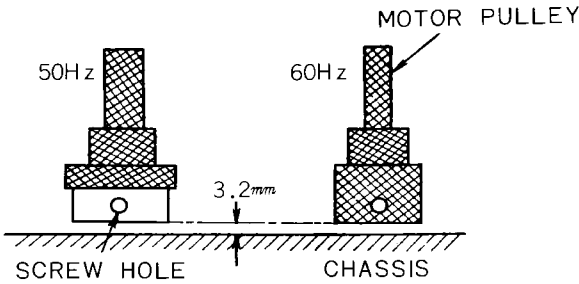

Fig. 20
b) Installation position of motor pulley (Fig. 20)